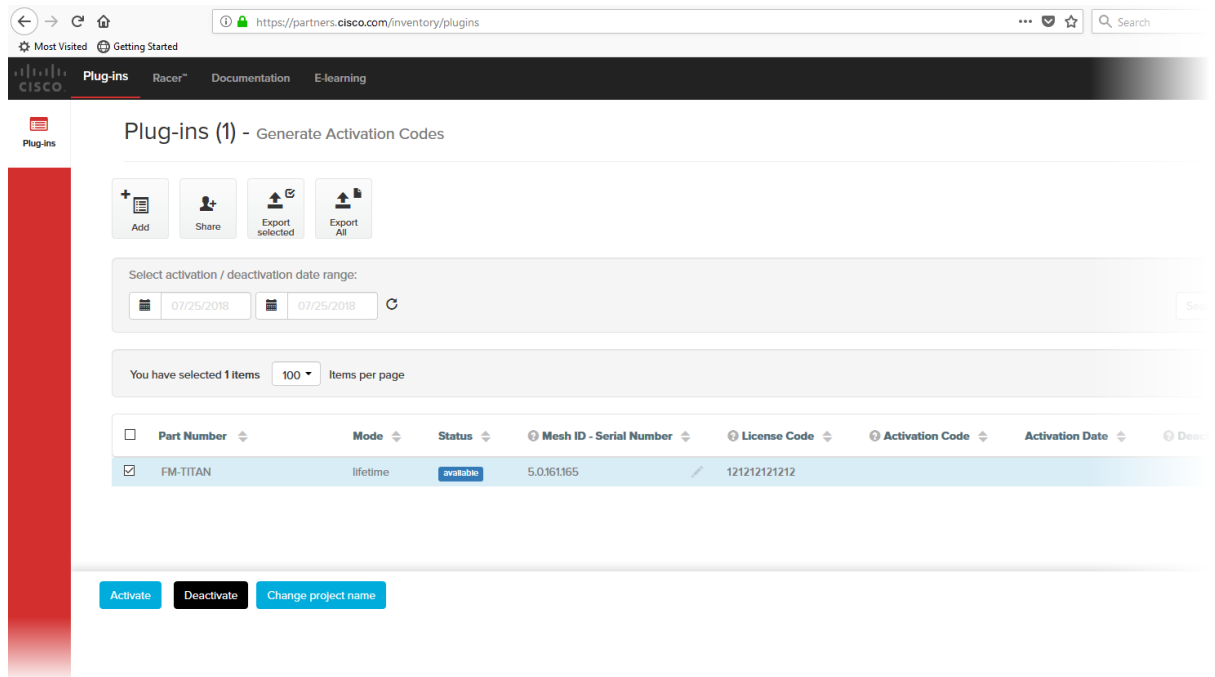

Figure 65. Partner Portal Plug-ins page (License code plug-in)
- When you purchase a generic 16-digit *License code*, the License code and corresponding plug-in will be listed on the Plug-ins page (Figure 65 \(page 146\)).